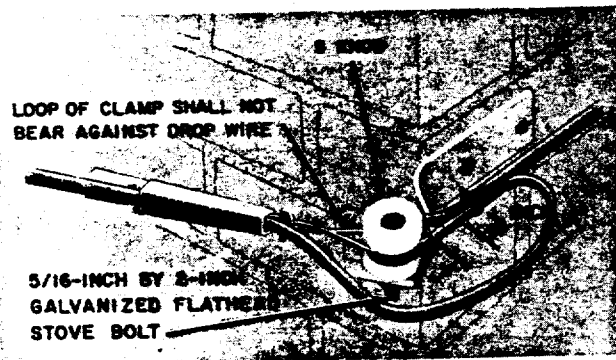

Fig. 2—Corner Bracket Equipped With S Knob
1.04 An S or T knob may be used with the corner bracket for attaching drop wires when porcelain insulated building attachments are required (Fig. 2).